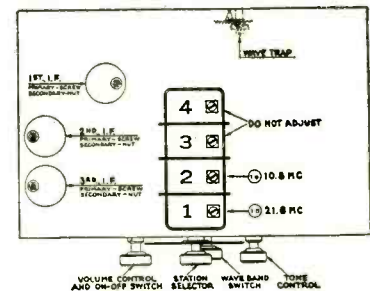

Fig. 2. Chassis layout showing location of trimmers.
The locations of the various trimmers and padders are given in the drawing of the chassis, shown in Fig. 2. *Do not attempt to adjust* the compensating condensers mounted upon the sections numbered 3 and 4 of the gang condenser. These have been adjusted, and sealed, at the factory and should not be disturbed.
lector at the low-frequency (520 kc) end. Adjust the wave-trap condenser (2) to give *minimum* response to a 460-kc signal from the signal generator. The wave-trap condenser is located at rear and underneath the chassis, and is shown in Fig. 2.